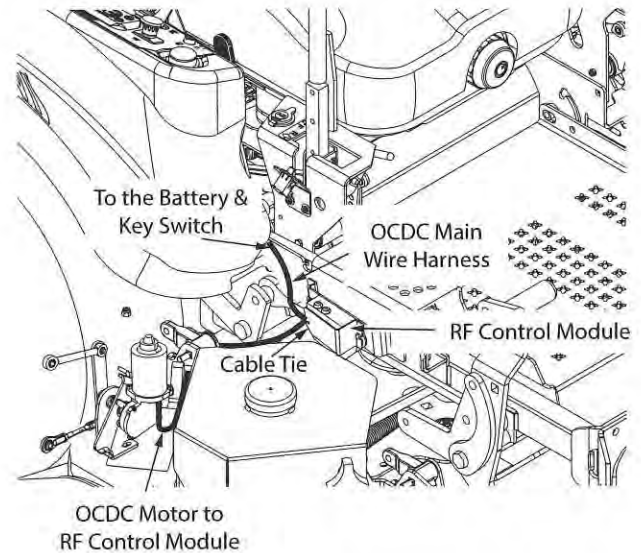

Figure 3-37. E-OCDC Wire Harness Installation
- Using a cable tie, retain the wires from the RF control module to the hole in the RF control module guard. See Figure 3-37.
- Locate the "A" terminal on the key switch and install the green wire from the E-OCDC harness to the key switch. See Figure 3-37.
- Plug the E-OCDC main wire harness into the RF control module. DO NOT plug the E-OCDC motor harness into the RF control module at this time, this may cause movement of the linkages. See Figure 3-37.